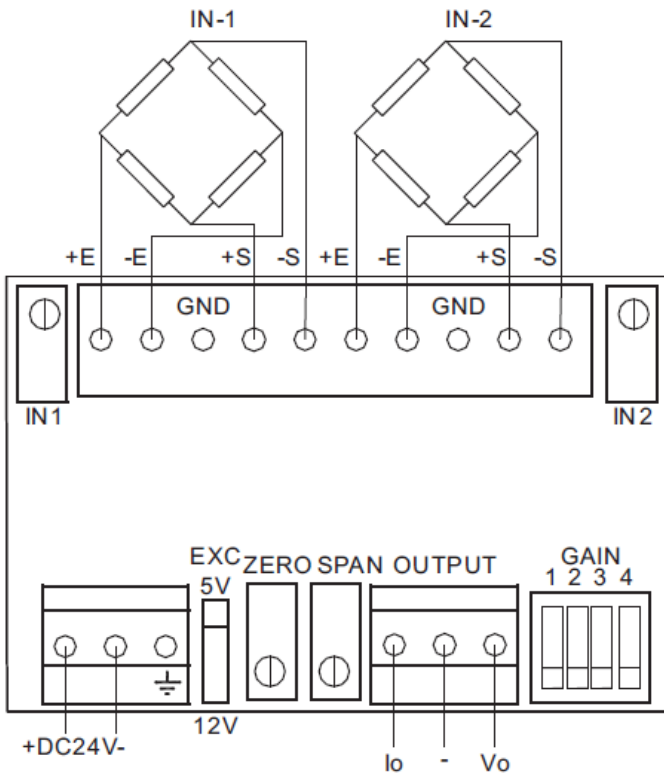

Figure 1.Connection Diagram
As shown in the Figure 1 (Connection Diagram), the left terminal ( $I_o$ ), outputs positive current and the right terminal ( $V_o$ ), outputs positive voltage. The middle terminal (-) is the common connection for negative current or negative voltage.
Refer on Figure 1, you may slide the switch for (EXC) from either 5V or 12V. The A2P-D2 amplifier can drive a load cells of either 5V or 12V excitation.
The A2P-D2 is applicable for load cells with different sensitivity. It supports 4 ranges of Gain. The user can select suitable gain for different load cell sensitivity, excitation voltage and output signal by setting the 4-bit DIP switch, by adjusting the Zero and Span potentiometer and by configuring the slide switch (EXC), respectively ( refer on Figure 1 ).
2. If Current Signal Output is required, set the output current to 4.00mA by adjusting the ZERO potentiometer ( refer to Figure 1).
3. If Voltage Signal Output is required, set the output voltage to 0.00V by adjusting the ZERO potentiometer ( refer to Figure 1 ).
2. If Current Signal Output is required, set the output current to 20.00mA (for 100% of max. capacity load ) by adjusting the SPAN potentiometer ( refer to Figure 1 )
3. If Voltage Signal Output is required, set the output voltage to 10.00V ( -10.00V ) for 100% of max. capacity load or 5.00V ( -5.00V ) by adjusting the SPAN potentiometer ( refer to Figure 1 ).